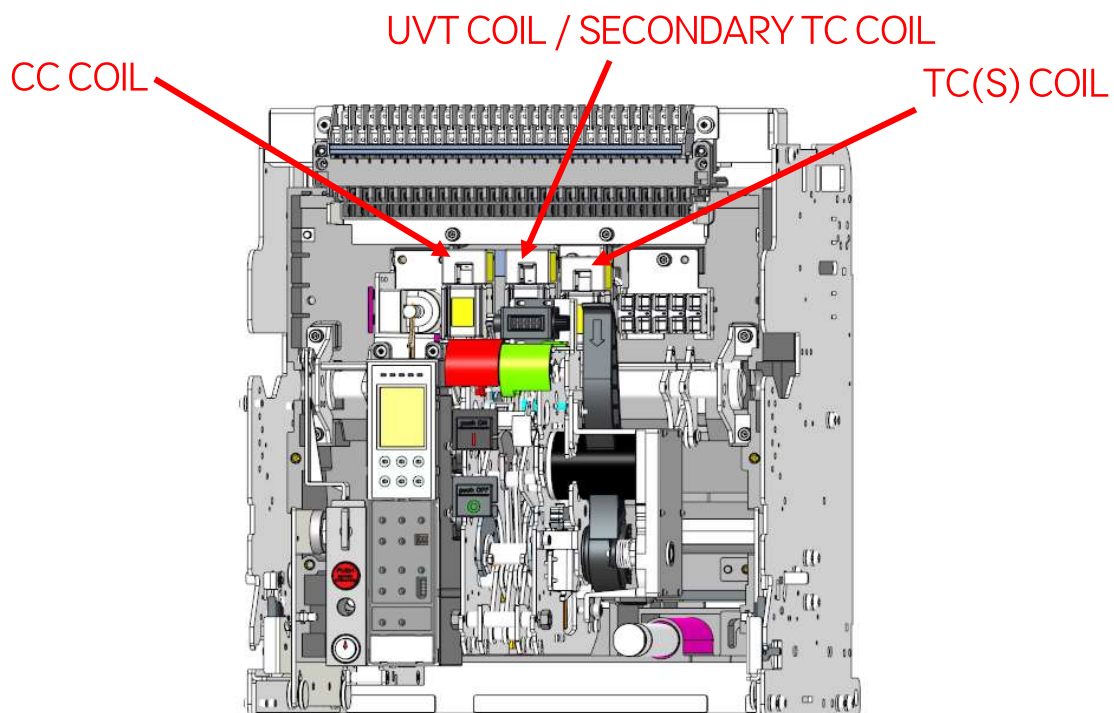

FIG 2
2. 그림과 같이 CC COIL, UVT COIL/TCS COIL, TC COIL가 설치된 위치를 확인하시오. [Fig.2]
2. As see the picture, confirm CC COIL, UVT COIL, TC COIL position installed. [Fig.2]